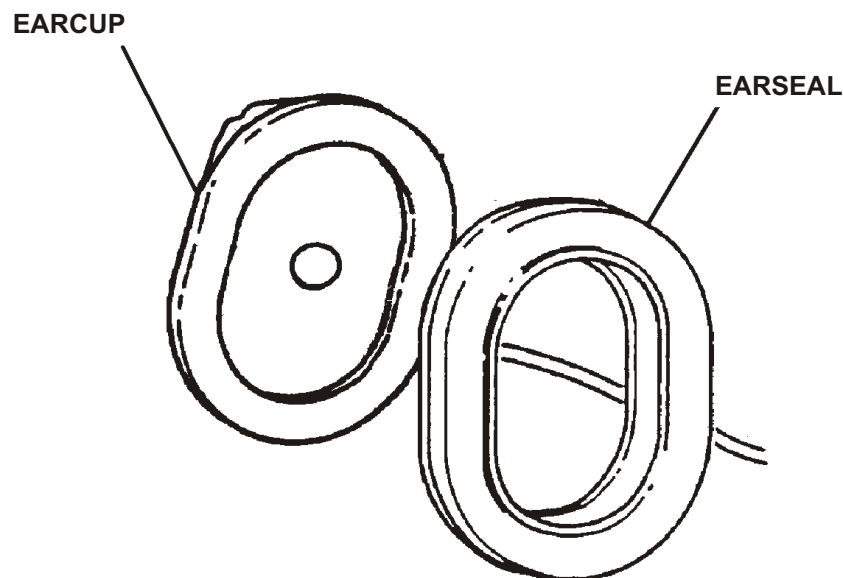

Figure 3-8. Earseal
2. Referring to Figure 3-8, remove the earseal by carefully stretching it away from the lip of the earcup shell.